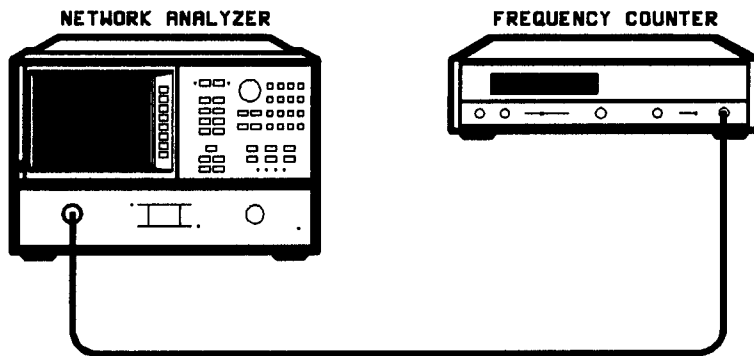

Figure 4-6. Frequency Range and Accuracy Test Setup
1. Connect the equipment as shown in Figure 4-6 and press **RECALL** **RECALL FAC PRESET** **MENU** **CW FREQ**.